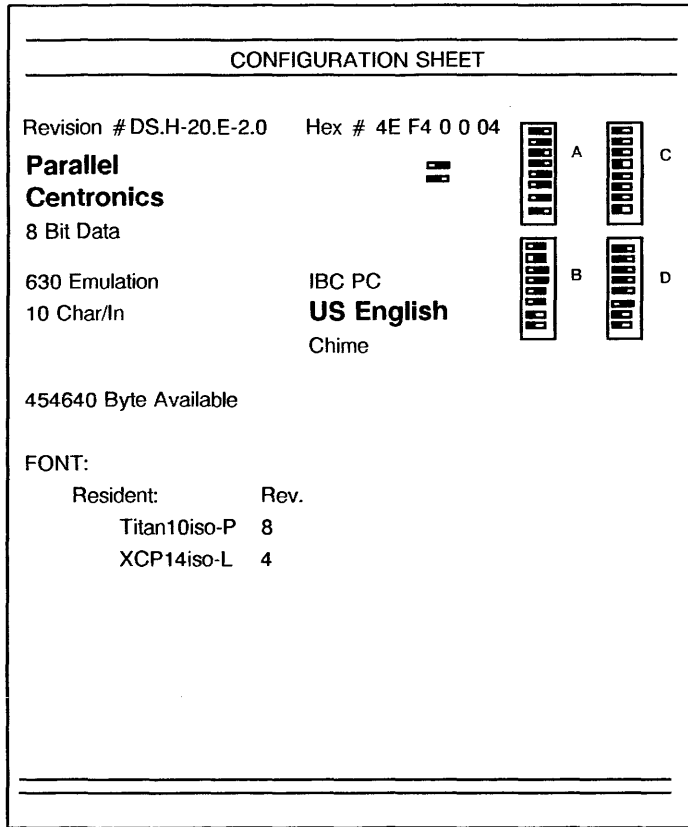

Figure 16. Configuration Sheet
33. Switch on the 4045 power. The configuration sheet (Figure 16) is printed.